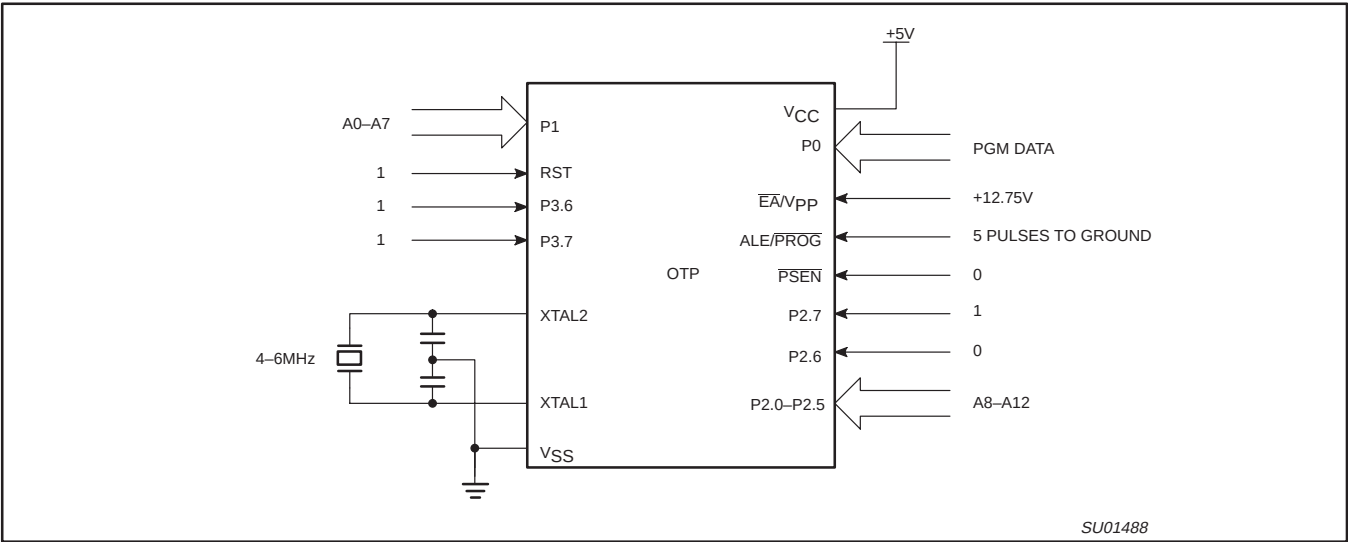
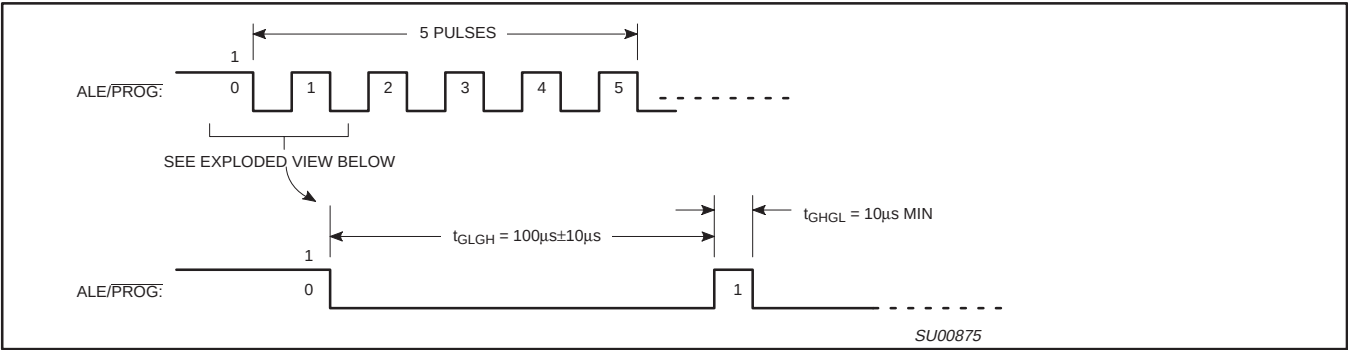
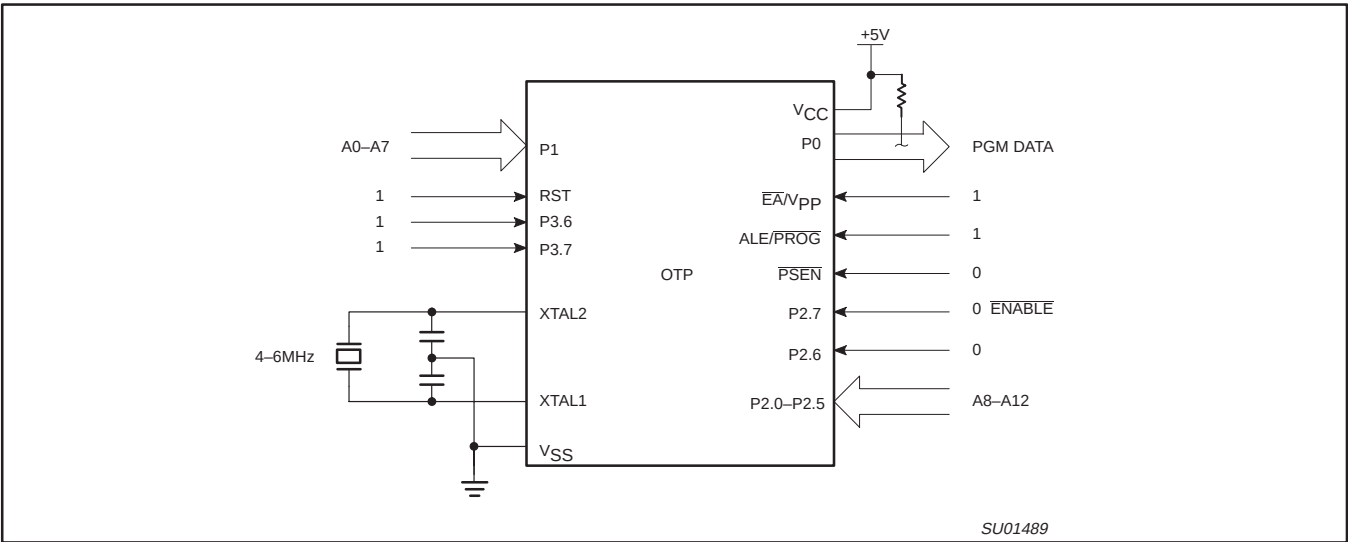

Figure 40. Programming Configuration
Figure 41. $\overline{PROG}$ Waveform
Figure 42. Program Verification
Table 9 shows the logic levels for reading the signature byte, and for programming the program memory, the encryption table, and the security bits. The circuit configuration and waveforms for quick-pulse programming are shown in Figures 40 and 41. Figure 42 shows the circuit configuration for normal program memory verification.
The setup for microcontroller quick-pulse programming is shown in Figure 40. Note that the device is running with a 4 to 6 MHz oscillator. The reason the oscillator needs to be running is that the device is executing internal address and program data transfers.
The address of the EPROM location to be programmed is applied to ports 1 and 2, as shown in Figure 40. The code byte to be programmed into that location is applied to port 0. RST, $\overline{PSEN}$ and pins of ports 2 and 3 specified in Table 9 are held at the 'Program Code Data' levels indicated in Table 9. The ALE/ $\overline{PROG}$ is pulsed low 5 times as shown in Figure 41.
If security bits 2 and 3 have not been programmed, the on-chip program memory can be read out for program verification. The address of the program memory locations to be read is applied to ports 1 and 2 as shown in Figure 42. The other pins are held at the 'Verify Code Data' levels indicated in Table 9. The contents of the address location will be emitted on port 0. External pull-ups are required on port 0 for this operation.
* FOR PROGRAMMING CONFIGURATION SEE FIGURE 40.
FOR VERIFICATION CONDITIONS SEE FIGURE 42.